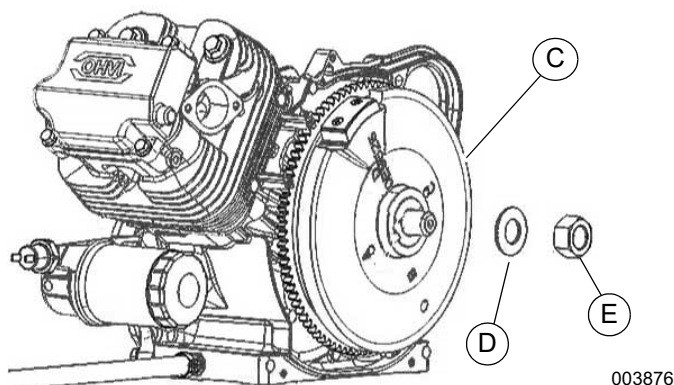

Figure 14-58. Attach Flywheel (HSB)
- See **Figure 14-58**. Attach flywheel (C) to crankshaft with washer (D) and nut (E). Orient washer with the crown on the nut side.